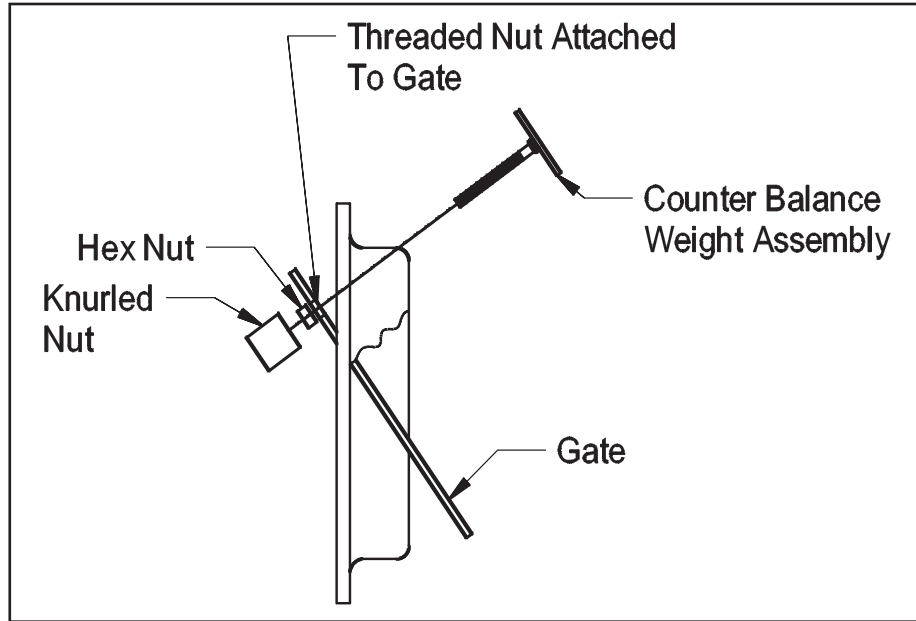

Figure 6
10. Assemble the VRV balance weight onto the gate. Screw the weight all the way in. Then attach lock nut and knurl nut. (See Figure 6)